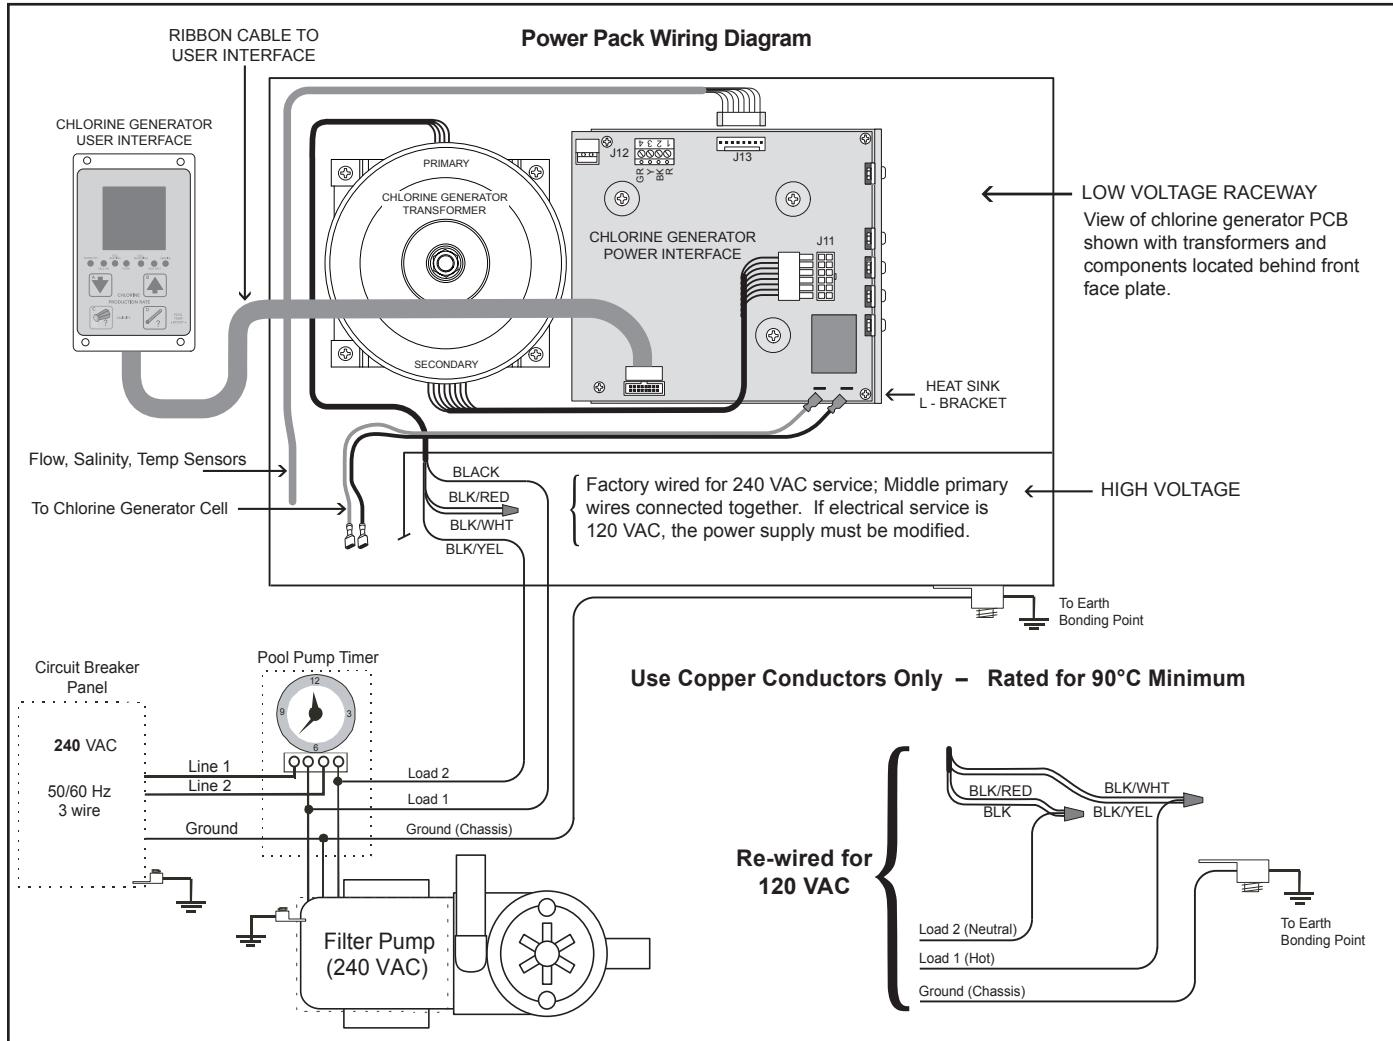

Figure 11. Wiring Diagram for the Power Pack
8. Check source voltage. (All units are factory wired for 240 VAC). ***In order to use on 120 VAC, the internal factory wiring of the power center must be changed. (see Figures 11 and 13).***
3. Install the strain relief provided with the vessel kit into the low voltage knock out at the power pack. Feed the connector end of the flow/temp/salinity sensor cable through the DC cord strain relief fitting. **Be certain the connector is clean and dry**, then plug the cable into the connector on the power center printed circuit board as shown in Figures 11, 12 and 13. (**Do not pull flow/temp/salinity sensor cable too tight, allow some slack**).
5. Connect the DC cord to the power center. Feed the DC cord through the same strain relief fitting as the flow/temp/salinity sensor at the power pack. Plug the DC cord into the two (2) spade connectors of the wiring harness located in the low voltage raceway of the control/power center, see Figures 11, 12 and 13. This wiring harness establishes the connection between the cell and the power interface board.
8. If the ribbon cable connecting the user interface to the power interface board was disconnected during installation then reconnect before reattaching cover (see Figures 11, 12 and 13).